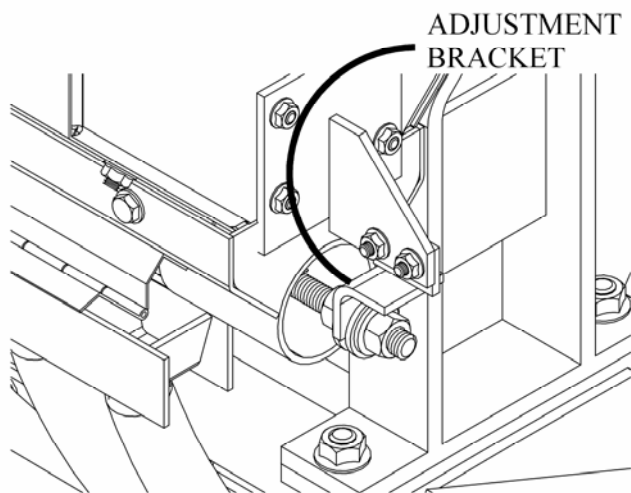

Figure 12a. Operational Position
- rotate hex nut until shaft bottoms out (Figure 12a)
5. Refasten the adjustment bracket into place. Make sure it is in the operational position, Figure 12a.